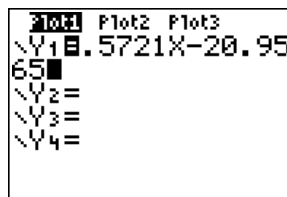

Figure 33
12. Press $\&$ to see the function (Figure 33).